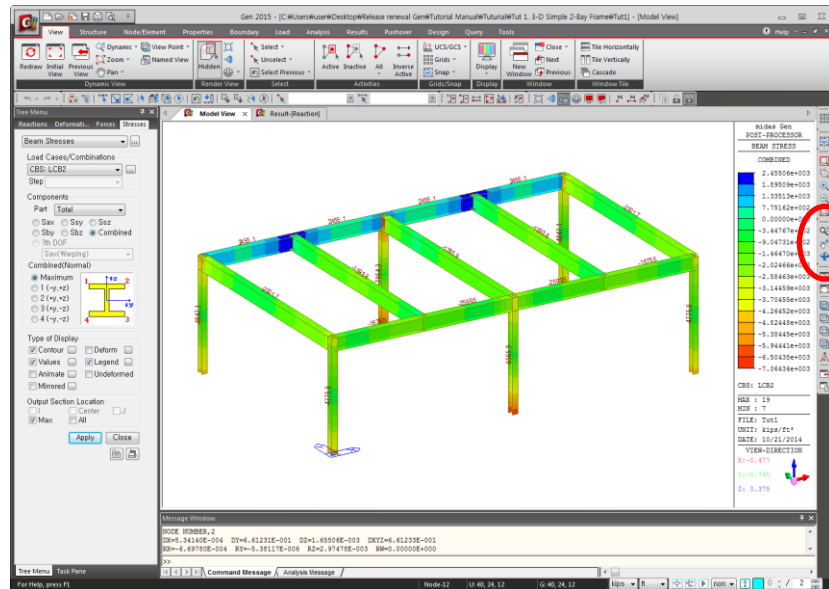

Figure 1.36 Eye Level View
Use *Dynamic View Toolbar* (Fig.1.36-①), located vertically on the bottom-right of the Model Window, as directed below.
For easier assessment of the deformation trend due to LCB 2 (Load Combination 2), rotate the model as shown in Fig.1.36 by using  **Rotate Dynamic**.